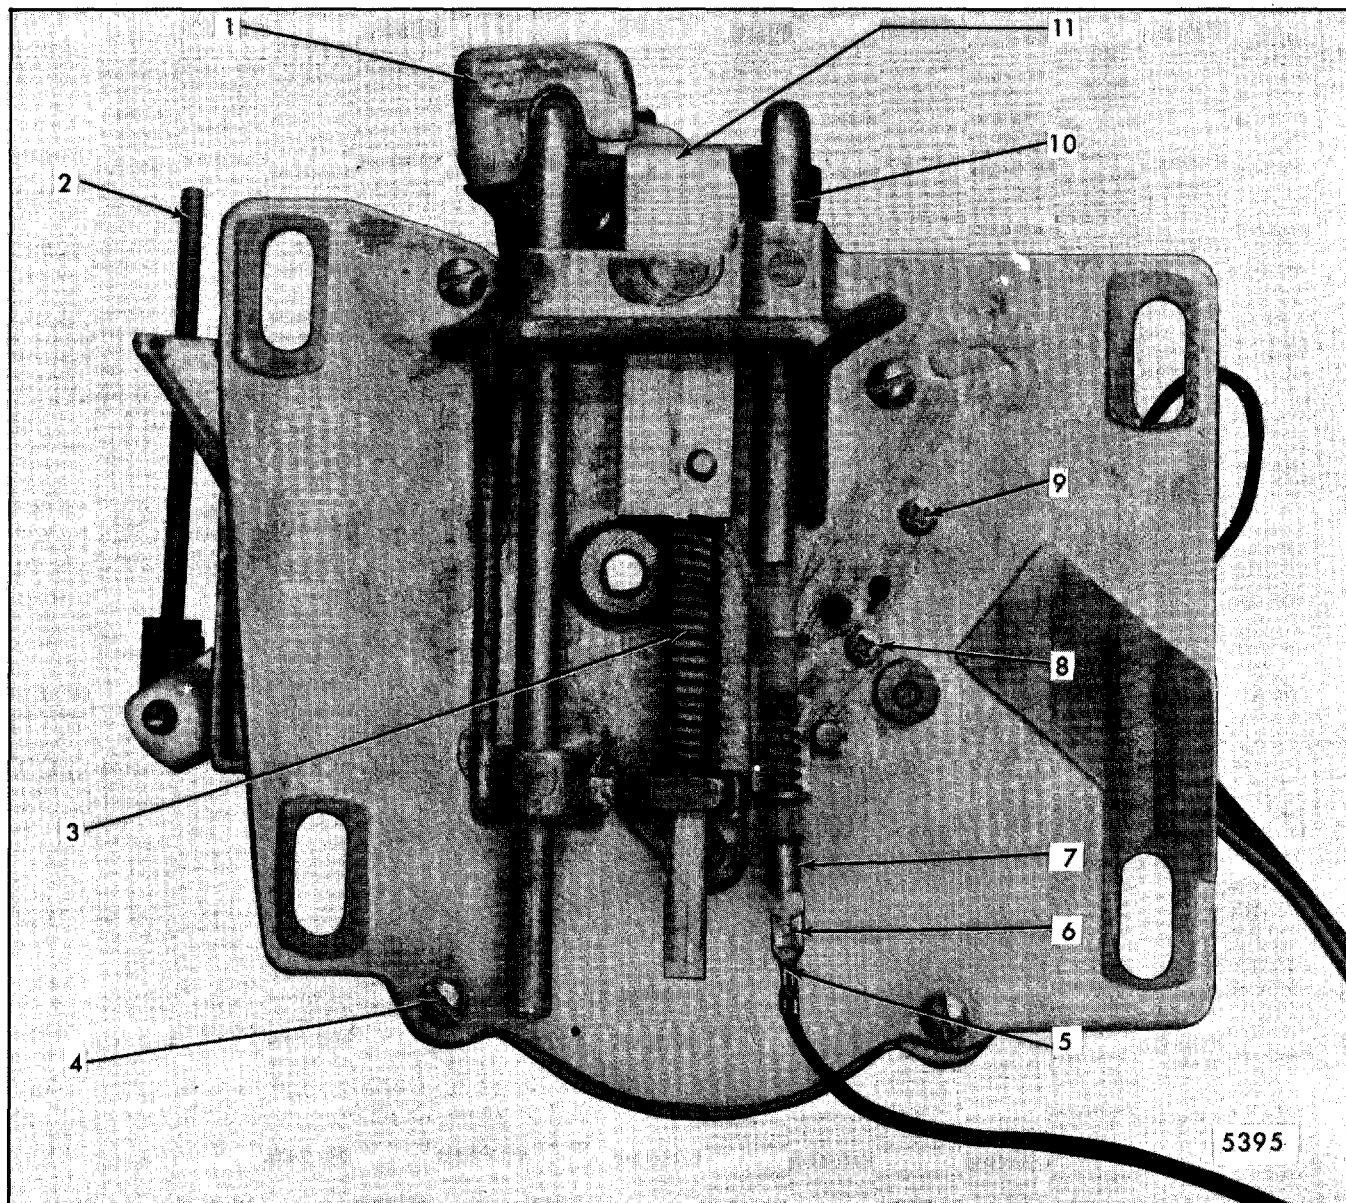

Fig. 7-44-Closing Unit Rear View
2. Remove actuator switch retaining screw from rearward side of unit cover (Fig. 7-44).
NOTE: To remove, depress terminal locking barb with pointed instrument (Fig. 7-44).
2. Insert plunger into plunger slot at upper edge of cover assembly. Slip plunger spring onto narrow neck of plunger (Fig. 7-44) and insert narrow neck into lower guide of cover.
6. Thread link and cover assembly onto long leg side of striker (Figs. 7-44 and 7-45).